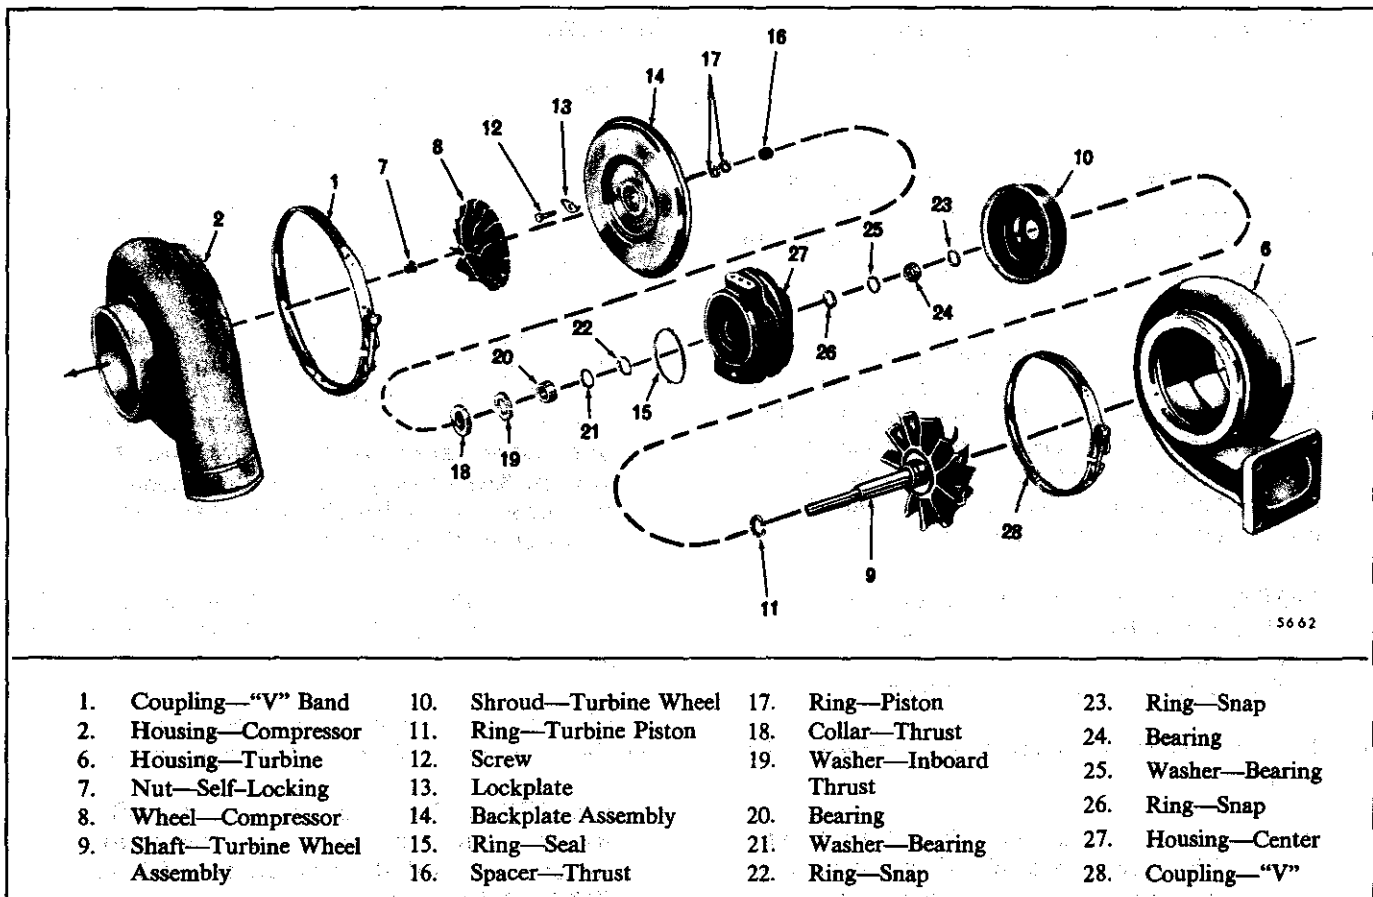
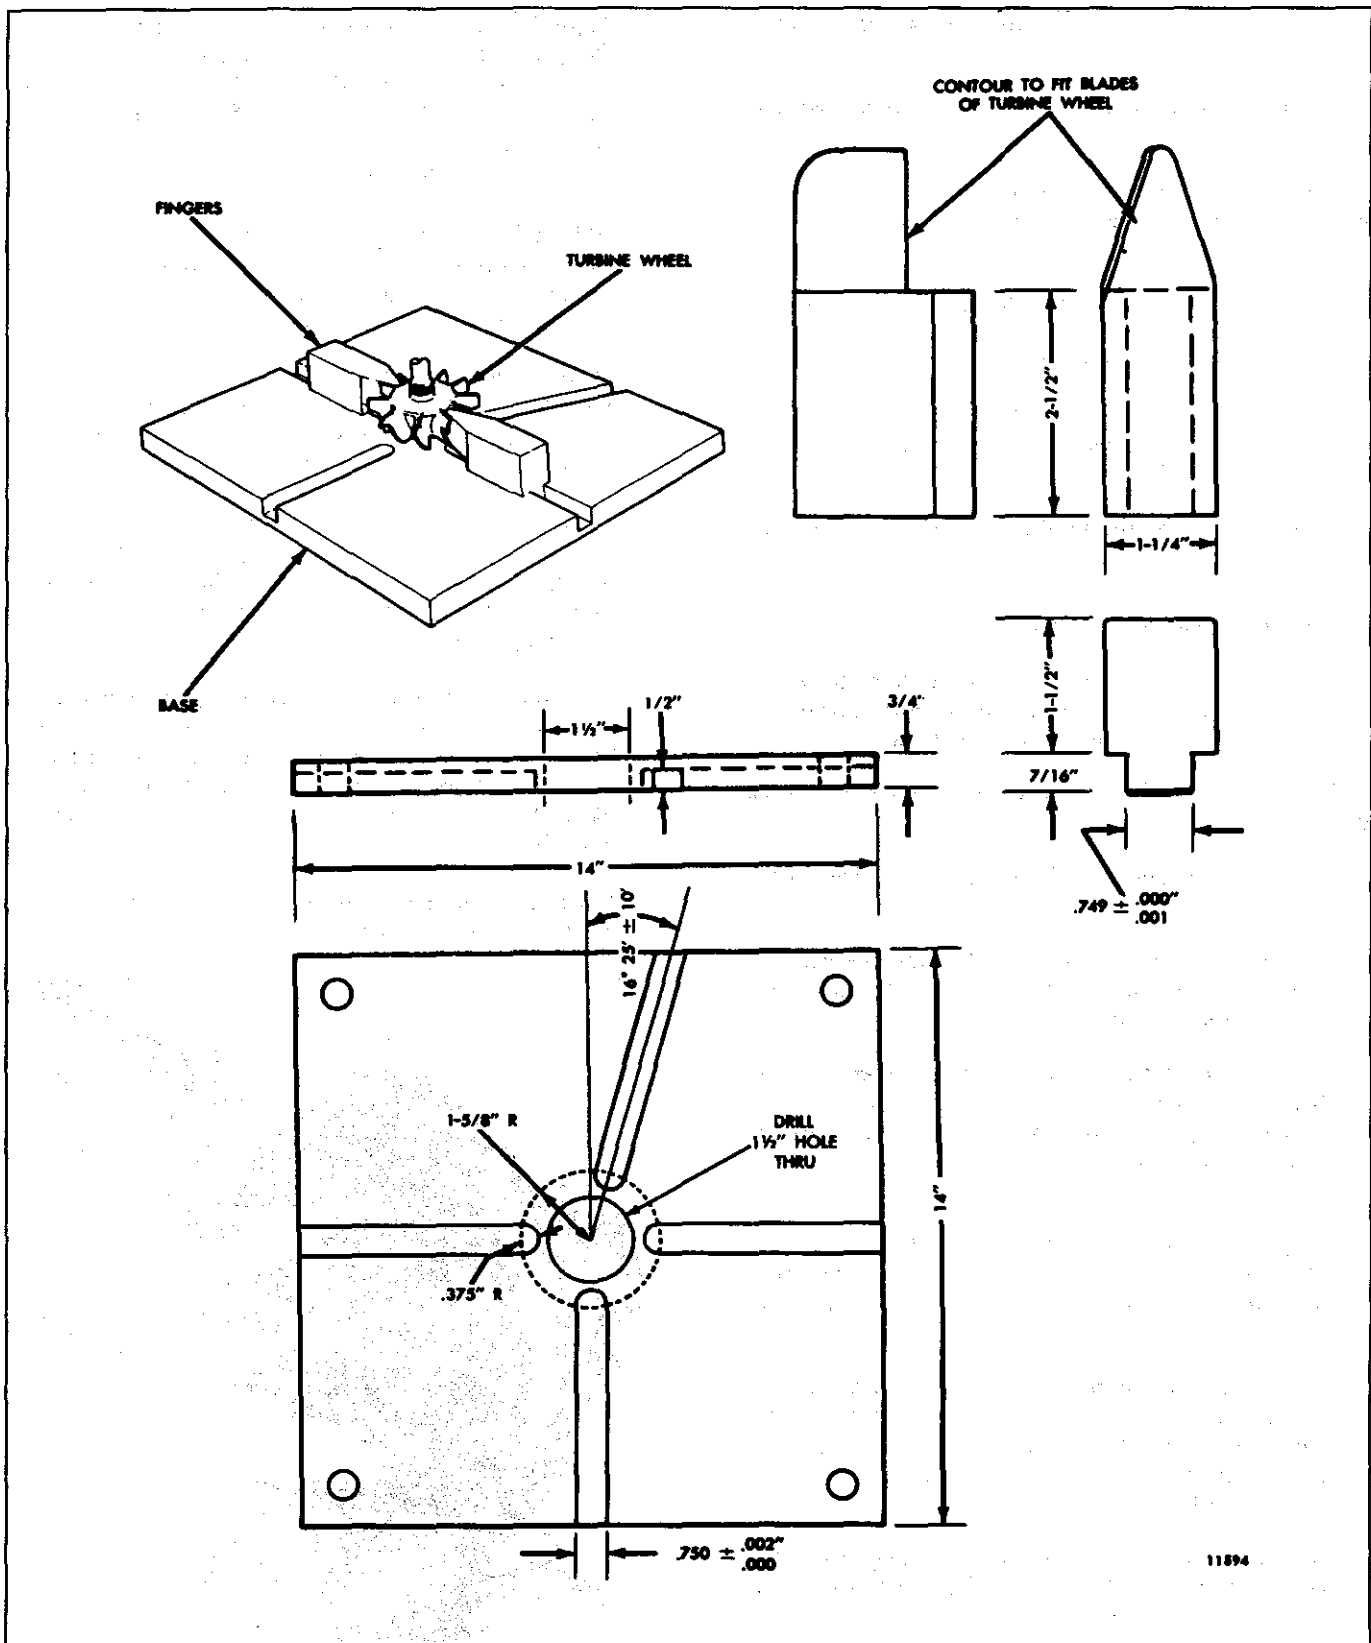

Fig. 18 - TV7301 and TV8101 Turbocharger Details and Relative Location of Parts
Fig. 19 - Turbocharger Holding Fixture
- Refer to (Fig. 18) and loosen the "V" band coupling (1) securing the compressor housing (2) to the backplate assembly (14) and remove the compressor housing and "V" band.
2. Loosen the "V" band coupling (28) securing the turbine housing (6) to the center housing (27). Remove the turbine housing from the center housing. Tap the housing with a soft hammer if force is needed for removal.
3. Position the turbine wheel (9) of the center housing assembly in a suitable holding fixture (Fig. 19). Remove the wheel nut (7) from the shaft. If a holding fixture is not available, clamp a suitable socket or box end wrench in a vise and place the extended hub on the shaft in the socket or wrench. Hold the center housing upright and remove the wheel nut from the shaft.
4. Press the compressor wheel (8) from the wheel shaft assembly (9).
5. Withdraw the wheel shaft assembly (9) from the center housing. The wheel shroud (10), which is not retained, will fall free when the wheel shaft is removed.
6. With the TV7301 and TV8101 turbocharger remove and discard the turbine piston ring (11) from the wheel shaft.
7. Bend down the lock tabs and remove the four bolts (12) and lockplates (13) securing the backplate assembly (14) to the center housing (27) and remove the backplate assembly. Tap the backplate lightly to remove it from the center housing recess.
8. Remove and discard the seal ring (15) from the groove in the center housing.
9. Remove the thrust spacer (16) and piston ring(s) (17) from the backplate assembly. Discard the piston ring(s).
10. Remove the thrust collar (18), inboard thrust washer (19), bearing (20), bearing washer (21) and snap ring (22) from the center housing. Discard the thrust washer, bearing, washer and snap ring.
11. Remove the snap ring (23), bearing (24), bearing washers (25) and snap ring (26) from the opposite end of the center housing. Discard the snap rings, bearing and washers.
Refer to (Fig. 18) for parts orientation and proceed as follows: